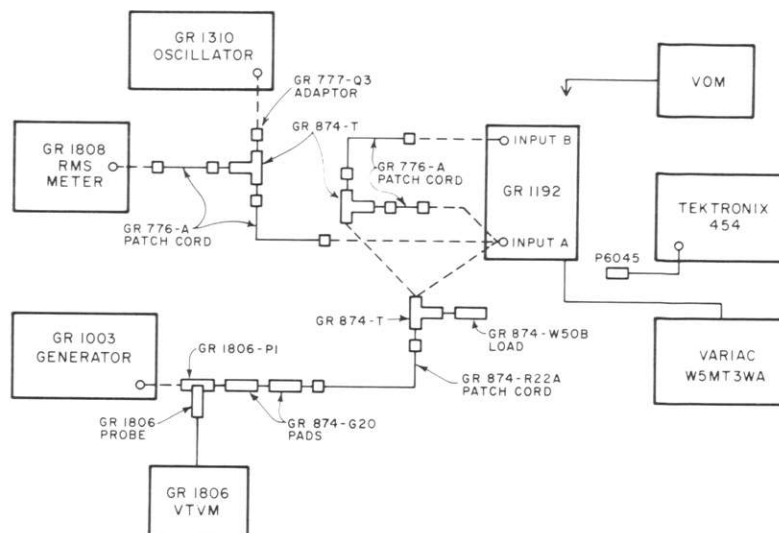

Figure 5-1. Test setup.
b. Connect the 1310 to INPUT A as shown in Figure 5-1.
c. Connect a second 874-T to the original tee and thence to the B-INPUT jack at the rear of the 1192, via a GR 776-A patch cord, as shown in Figure 5-1.
h. Remove one 20-dB pad from the circuit shown in Figure 5-1 and connect the generator to one leg of the second coaxial tee that goes to INPUT A and B on the 1192.
c. Unlatch the external time-base button (to the 1 MHz position). Apply the signal from the 1003 also to the input B channel. See Figure 5-1 for interconnection details.
If unable to obtain the performance called for in the minimum performance procedures of paragraph 5.3, use the procedures that follow to isolate trouble to a replaceable detail part. Refer to Figure 5-1 for test-equipment connection and to Table 5-1 for suggested test equipment. Full circuit details and parts information, given in Section 6, used in conjunction with the circuit theory presented in Section 4, should facilitate repair.
b. Prepare a test set-up as shown in Figure 5-1.
a. With the 1192 in the FREQUENCY mode, apply a 10-kHz signal with the 1310 oscillator to INPUT A. See Figure 5-1 for the set up.